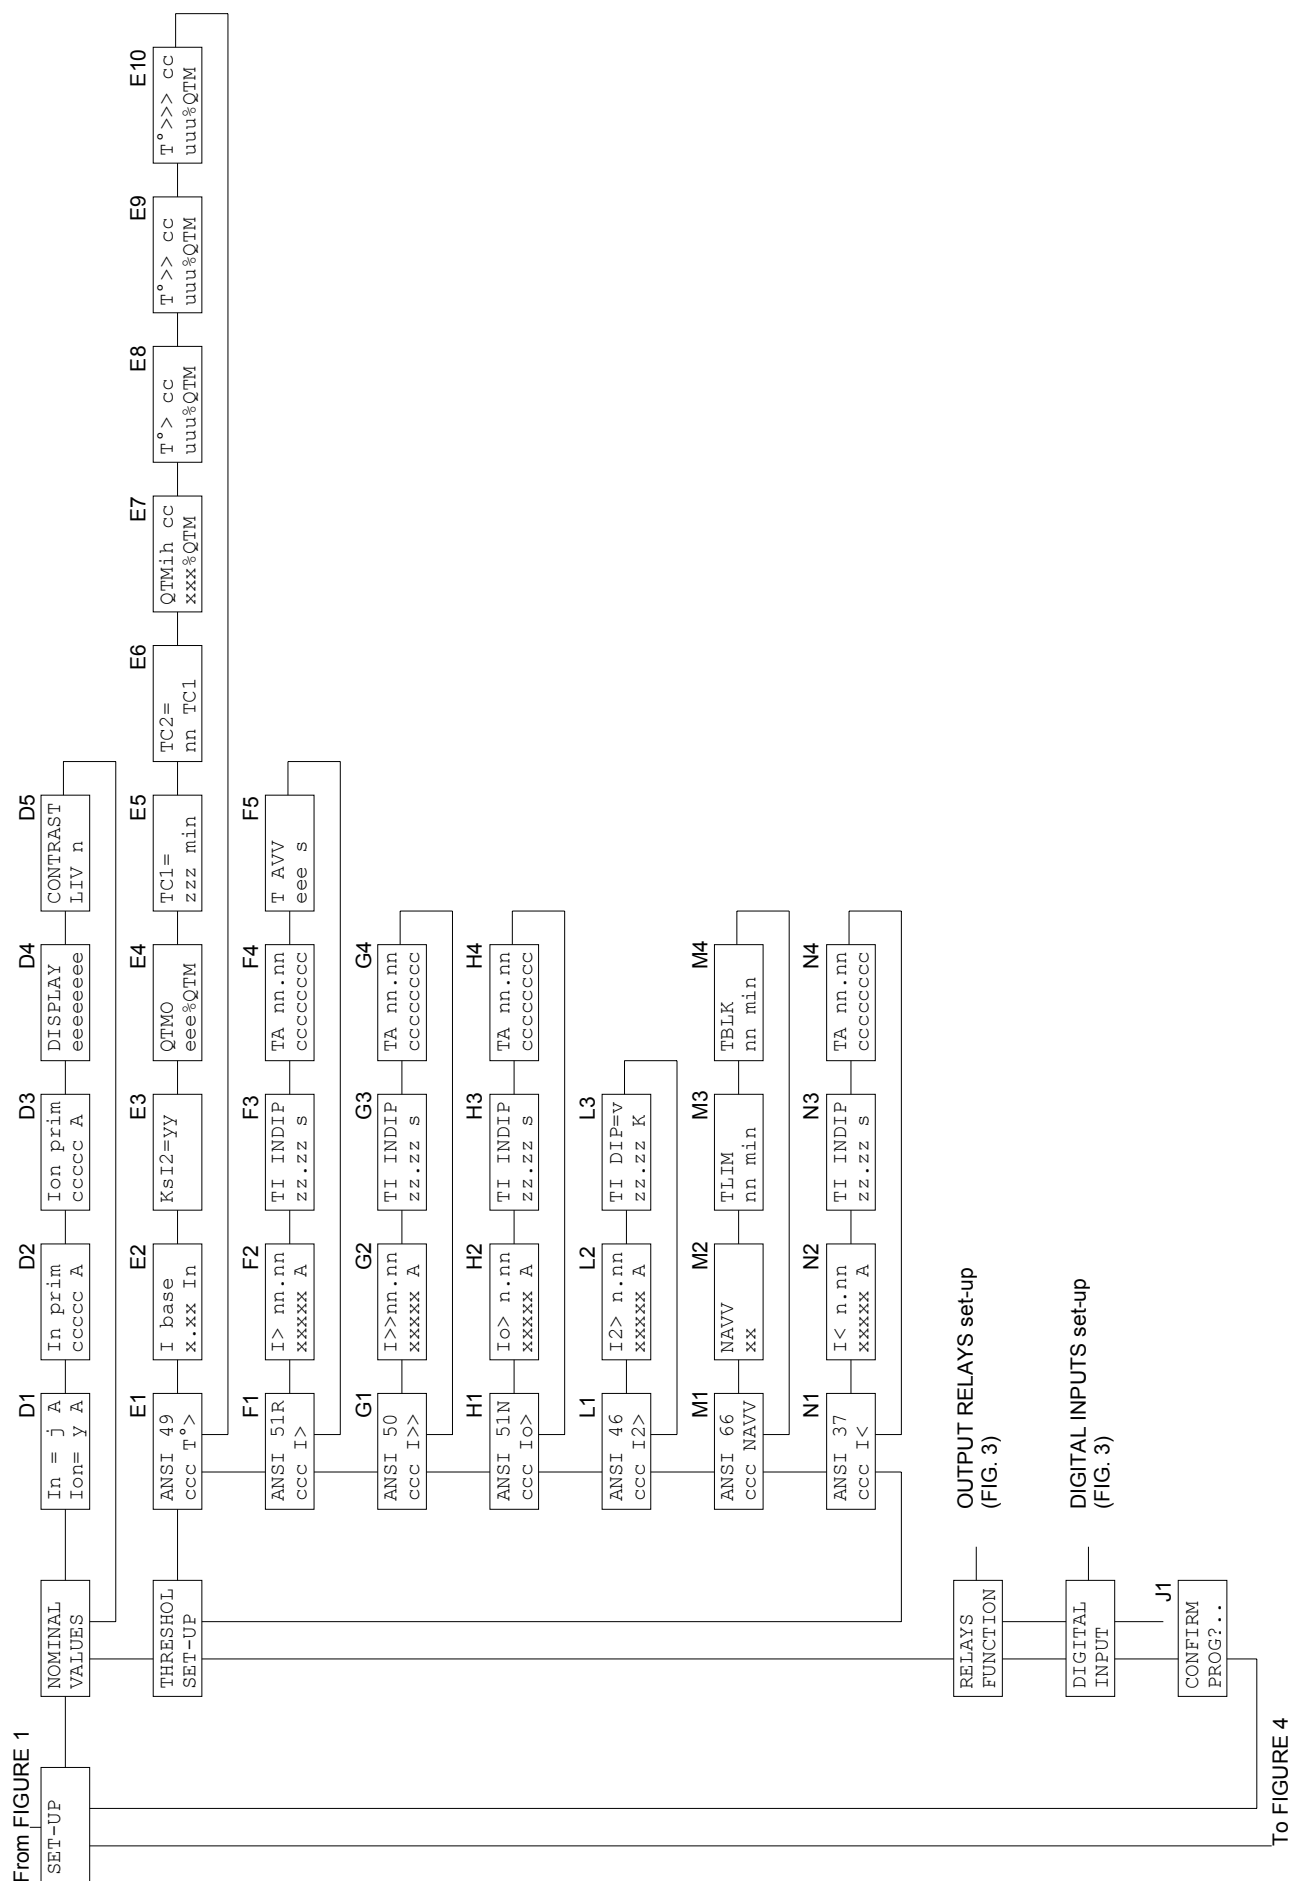

Figure 2
- 5) **CONFIRM** the new protection relay set-up at the visualization CONFIRM PROG? (Fig. 2, ref. J1) within 5 minutes depressing the push-buttons buttons [ENTER],  up to visualize **YES** and [ENTER] again to confirm.
and the new programmed set is not accepted; the value of the QTMinh threshold (ref. E7 - fig. 2) or the values of the lower overload thresholds ($T^{\circ}>$, $T^{\circ}>>$, $T^{\circ}>>>$ - ref. E8, E9, E10 fig. 2) must be modified.
5.5 Nominal values set-up (fig. 2)**D1 - NOMINAL CURRENT SELECTION In (programmable)**
5.6 Thresholds and time delay set-up**5.6.1 Thermal overload thresholds (fig. 2)****E1 - ON / OFF THERMAL OVERLOAD THRESHOLD (programmable)**